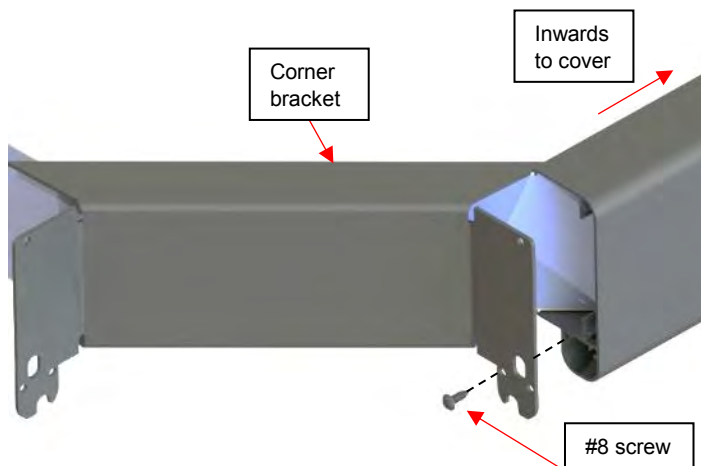

Figure 75
33) Insert the corner bracket on the tapered part of one end panel. Use the provided Robertson sheet metal #8 x 3/4 in. screws on the inside hole. **The two remaining holes will be used later** (Figure 75).